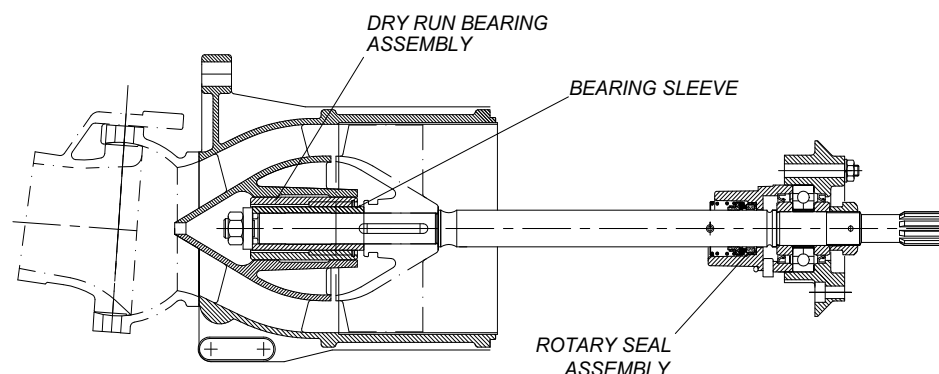

Figure 19: Dry Run Bearing Assembly
Note: As the dry run bearing runs on only one half of the bearing sleeve refer to Figure 19: Dry Run Bearing Assembly The bearing sleeve can be turned end for end when it shows signs of wear.
1. When changing the 'dry run bearing assembly', dismantle and reassemble the whole assembly (plastic and metal shell) to the tailpipe in the same manner as removing or replacing a standard rubber marine bearing. The plastic part of the bearing should be fitted so it sits closest to the impeller. The shell should sit flush with the tailpipe **refer to** Figure 19: Dry Run Bearing Assembly.